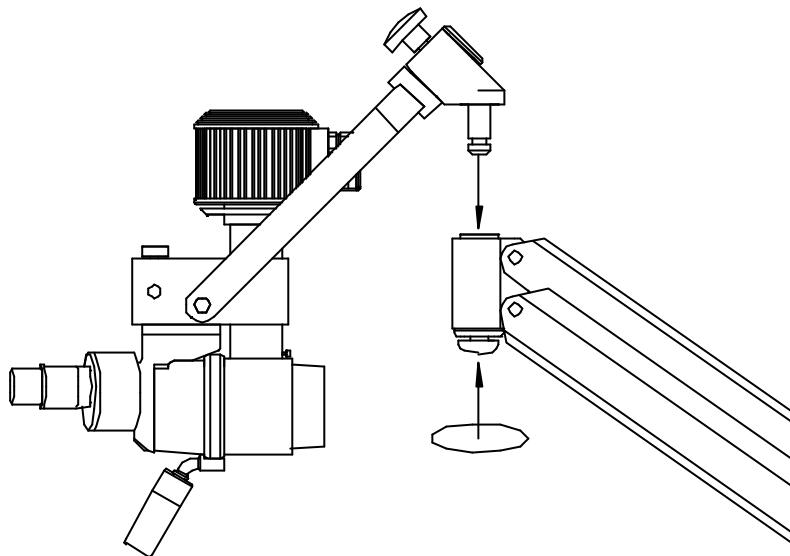

Figure 6 Assembling the microscope
5. Remove the microscope assembly from the case and locate the microscope assembly in the end of the arm assembly. Tighten the knob underneath the end of the arm to secure the microscope in the collet. Refer to figure 6.